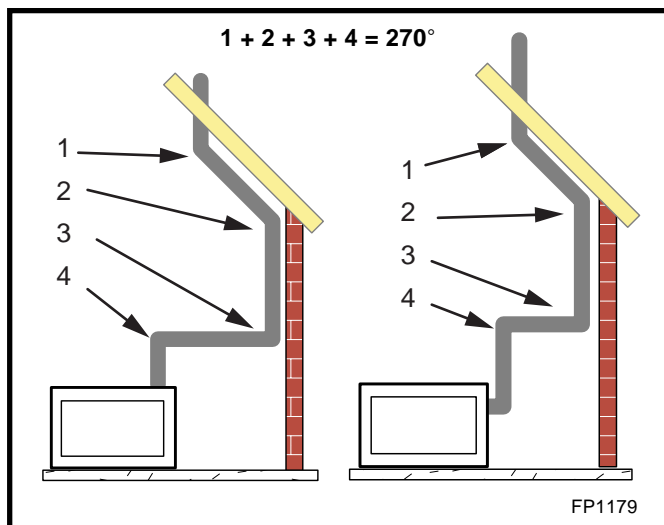

Fig. 40 Maximum elbow usage.
- Two sets of 45° elbow offsets may be used within the vertical sections. From 0 to a maximum of 8' (2.5m) of vent pipe can be used between elbows. (Fig. 40)
- The maximum angular variation allowed in the system is 270°. (Fig. 40)